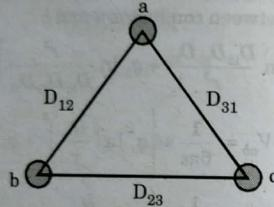

Fig. 4.15.1. Three-phase single-circuit untransposed line.
1. A three-phase single circuit untransposed line is shown in Fig. 4.15.1.